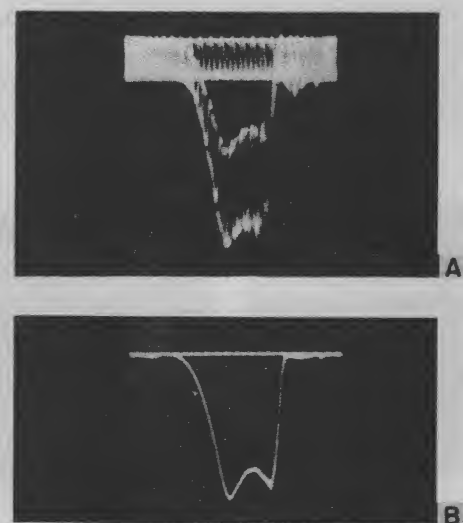

Fig. 10-5. A-M marking of traps.
*c. Sweep Generator and Scope.* Trap alignment, using a sweep generator and scope, can also be accomplished. An amplitude-modulated marker can be used to advantage. Figure 10-5 (A) shows the response curve with a-m marker before trap adjustment. Figure 10-5 (B) shows the effect of trap adjustment on the response curve. The modulating envelope reduces to a minimum or disappears when the trap is properly adjusted.